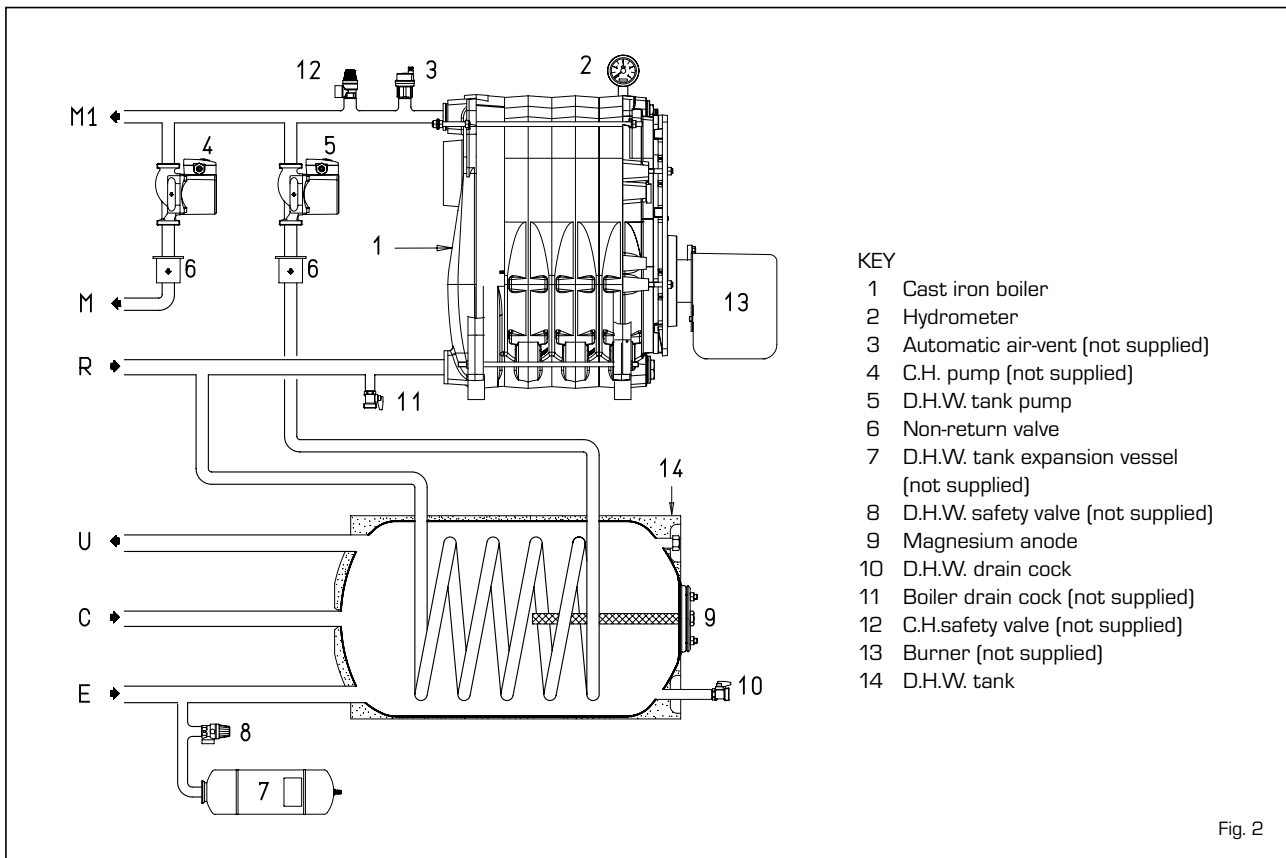

Fig. 2
#### 2.3.1 Accessories (fig. 2)
**To facilitate this operation, position the slot of the release screw on the check valve horizontally (6 fig. 2). Once the air has been bled, return the screw to its original position.**